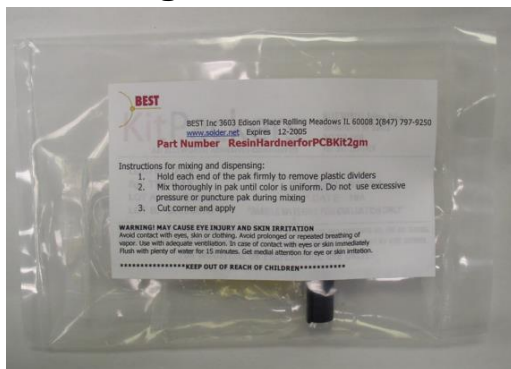

Fig. 3.2
2. This epoxy (**Fig.3.2**), is designed to withstand the chemicals, heat and can adhere to materials common in PCB assembly. It has been used since 1998 and can be used in a variety of applications including but not limited to pad and trace repair, solder mask repair, baseboard material repair as well as numerous others. The mix ratio is already taken care of for you in the pre-mixed bags and therefore is easy to remember and easy to mix. It is a 3:1 ratio mix.